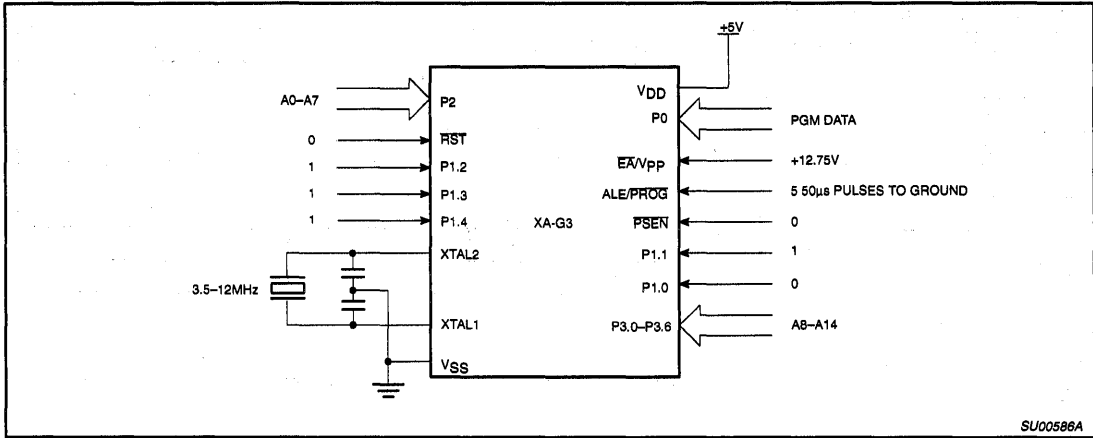
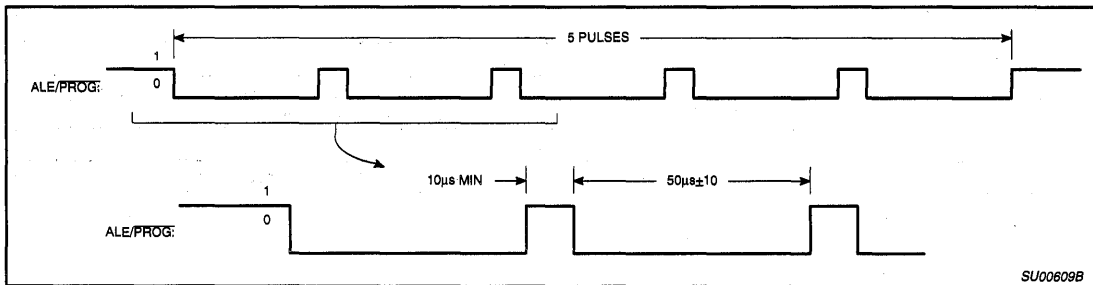
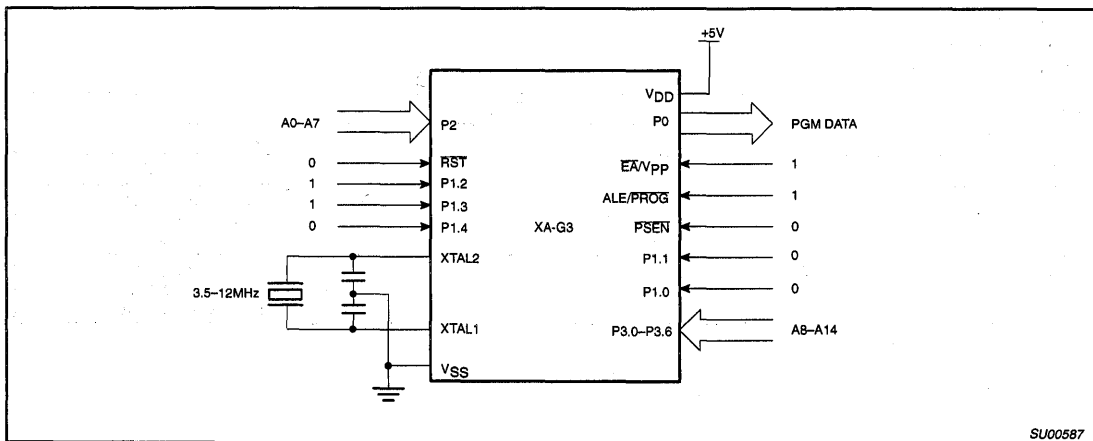

Figure 31. Programming Configuration for XA-G3
Figure 32. PROG Waveform
Figure 33. Program Verification for XA-G3
Table 6 shows the logic levels for reading the signature byte, and for programming the code memory and the security bits. The circuit configuration and waveforms for quick-pulse programming are shown in Figures 31. Figure 33 shows the circuit configuration for normal code memory verification.
The setup for microcontroller quick-pulse programming is shown in Figure 31. Note that the XA-G3 is running with a 3.5 to 12MHz oscillator. The reason the oscillator needs to be running is that the device is executing internal address and program data transfers.
The address of the EPROM location to be programmed is applied to ports 2 and 3, as shown in Figure 31. The code byte to be programmed into that location is applied to port 0. \overline{RST} , \overline{PSEN} and pins of port 1 specified in Table 6 are held at the 'Program Code Data' levels indicated in Table 6. The $\overline{ALE}/\overline{PROG}$ is pulsed low 5 times as shown in Figure 32.
If security bits 2 and 3 have not been programmed, the on-chip program memory can be read out for program verification. The address of the program memory locations to be read is applied to ports 2 and 3 as shown in Figure 33. The other pins are held at the 'Verify Code Data' levels indicated in Table 6. The contents of the address location will be emitted on port 0.
* FOR PROGRAMMING CONDITIONS SEE FIGURE 32.
FOR VERIFICATION CONDITIONS SEE FIGURE 33.